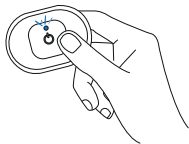

Figure 5.
**1) Switch on the electronic unit pressing the small button marked by the ignition switch symbol for at least two seconds.** Every time the electronic unit is switched on any initial check is done on the main hardware components. This phase is identify by a green LED followed by a series of red blinks. If the initial check is positive, it will start the power-on sequence: green LED-Red blinking LED- blue blinking LED, which indicates that the device is ready for the Bluetooth connection (figure 5).